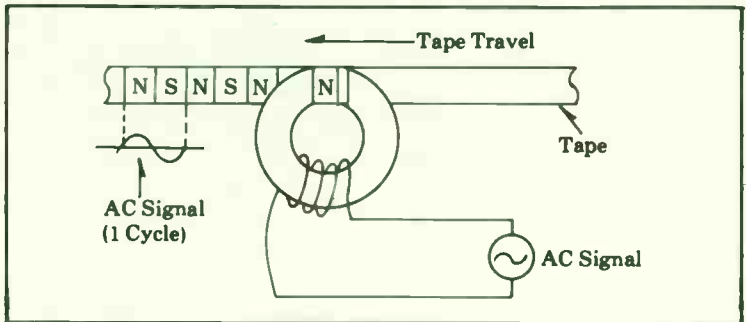

Fig. 8-2. One cycle of ac being recorded.
The tape will have differently magnetized regions, which can be called north (N) and south (S), according to the ac signal. When the polarity of the ac signal changes, so does the direction of magnetization on the tape, as shown by one cycle of the ac signal (Fig. 8-2). If the recorded tape is then moved past a head whose coil is connected to an amplifier, the regions of magnetization on the tape will set up flux across the head gap which will in turn induce a voltage in the coil to be amplified. The output of the amplifier will be the same as the original ac signal. This is essentially what is done in audio recording, with other methods for improvement like bias and equalization.
There are some inherent limitations in the tape recording process which does effect video recording, so let's look at them now. As shown in Fig. 8-2, the tape has north and south magnetic fields which change according to the polarity of the ac signal. Now let's see what occurs if the frequency of the ac signal were greatly increased.